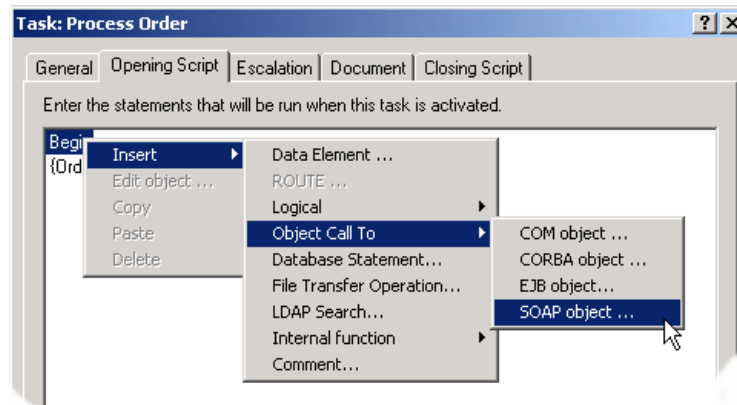

Figure 37-5. Opening Script tab with a SOAP Object call being inserted into the CRbuilder process.
- ❶ Double-click on a task, then click the **Closing** or **Opening** script.
- ❷ Right-click on the **Begin** statement, select **Insert**, then **Object Call To**, then **SOAP Object** (see Figure 37-5, below).